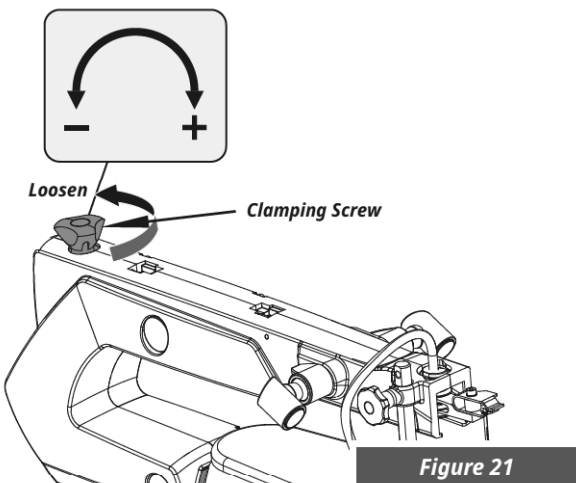

Figure 21
- Pinned blade removal. Extract the pinned blade by unscrewing the Clamping screw. Remove the pinned blade from the upper and lower support by slightly pressing the upper arm down. (See Figure 21&22)